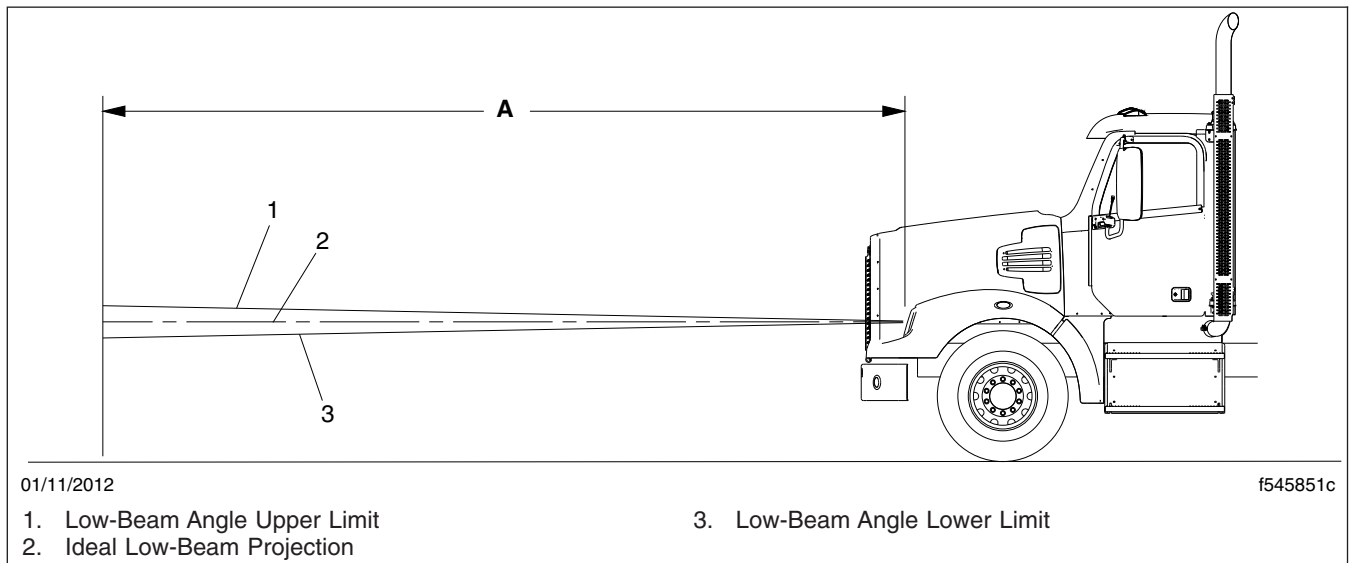

Fig. 22.3, Vertical Low-Beam Headlight Variation Limits
5. Check the vertical adjustment of the low beams. The center of each beam projection should fall on or near the marks made during step 3. See Fig. 22.3.